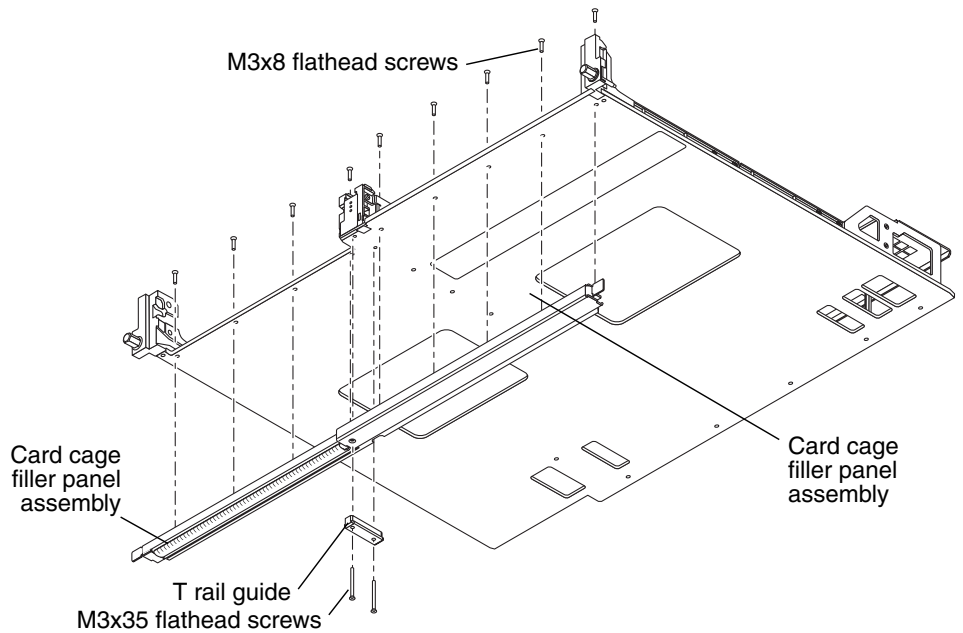

FIGURE 10-5 Removing the Card Cage Filler Panel
4. Remove the card cage filler panel assembly from the existing carrier plate and set aside (FIGURE 10-5).
5. Secure the card cage filler panel assembly with the nine (9) M3x8 flathead screws to the new package carrier plate.
6. Assemble the T rail guide and secure with the two (2) M3x35 flathead screws.